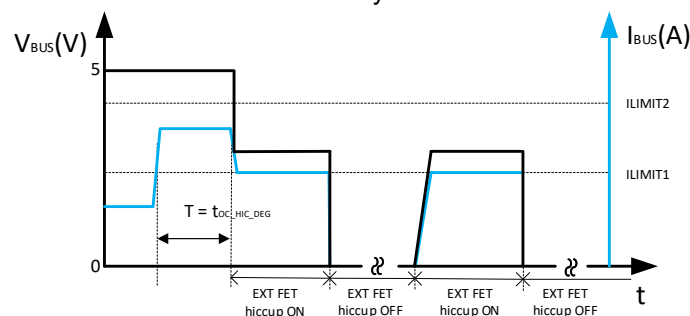

FIG 10-19. Two Level Current Limit Methodology with ext MOSFET Case 2
- Case 2: If the load current I_{BUS} is in the range $I_{LIMIT2} > I_{BUS} > I_{LIMIT1}$ and the duration $> t_{OC_HIC_DEG}$, the external MOSFET will current limit to I_{LIMIT1} , then enter hiccup mode with 2 ms of on-time and 263 ms of off-time, as shown in FIG 10-19. When the load current decreases below I_{LIMIT1} and continues $> t_{OC_HIC_RST}$, the external MOSFET will resume always on.